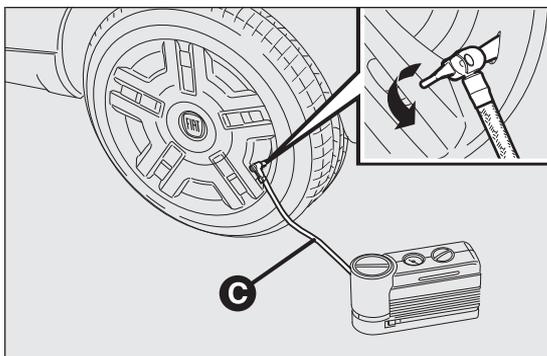

fig. 185
- Undo the cap for the tyre valve, extract the pipe C fig. 185 with the quick connector and connect it directly to the valve of the tyre to be inflated.